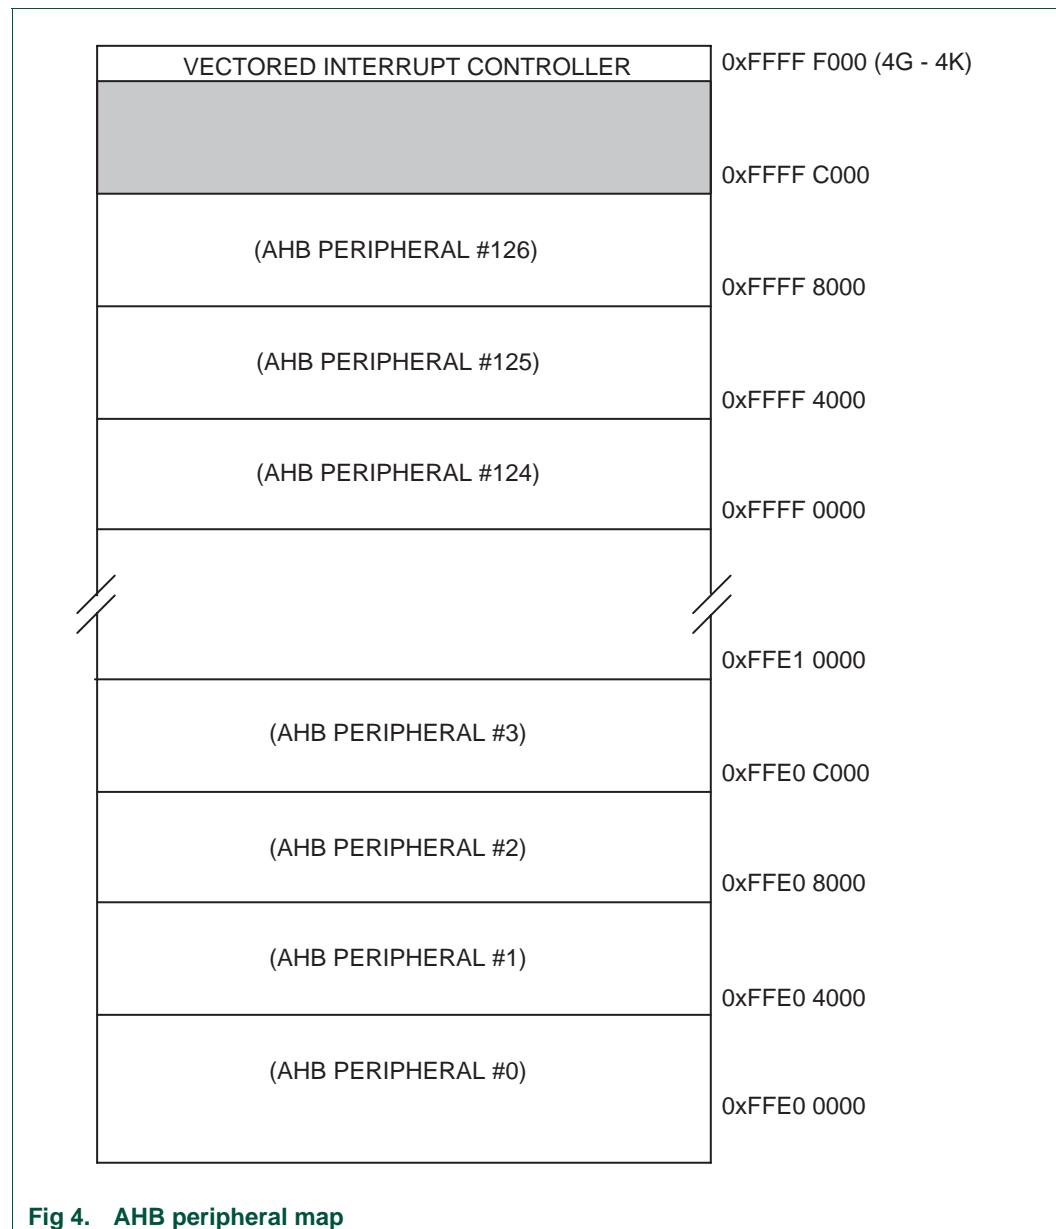

Fig 4. AHB peripheral map
- Unassigned AHB peripheral spaces. See Figure 4.